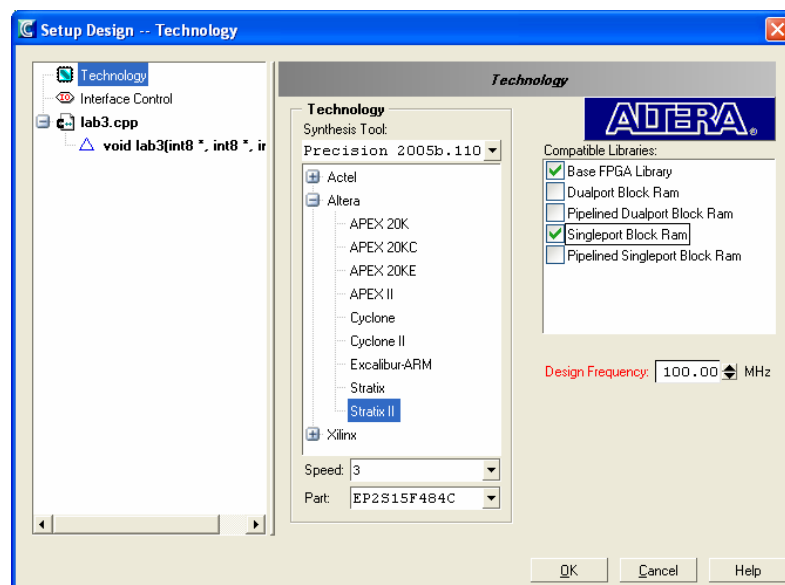

Figure 1 Adding Singleport RAMs
- ✓ Include the Singleport Block RAM IO library by checking the box in the compatible libraries pane of the setup design dialog box (Figure 1).